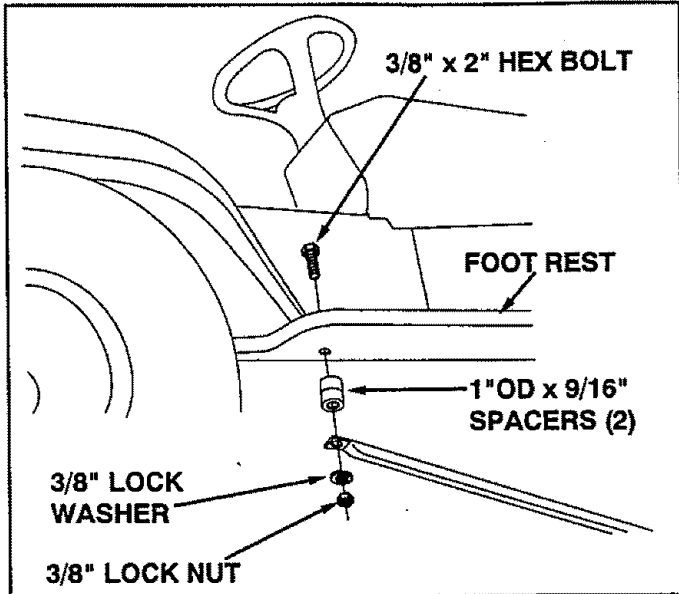
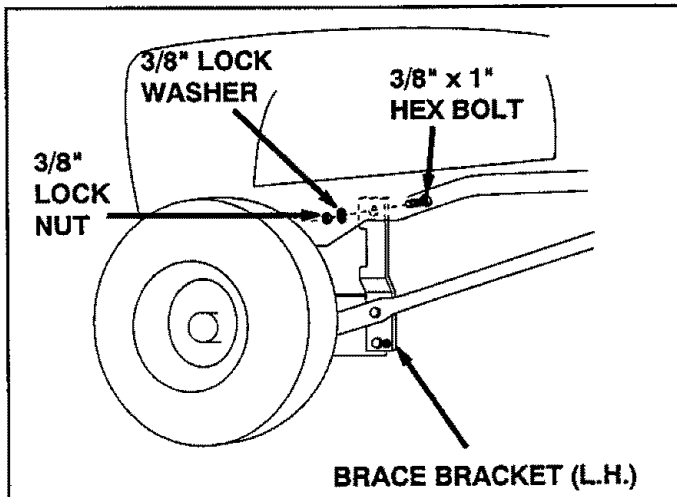

FIGURE 19
FIGURE 20
- Attach brace tube to tractor frame using a 3/8" x 2" hex bolt, two spacers, lock washer and lock nut. Use the hole located to the inside back of the foot rest. Hole is concealed by rubber padding. **Do not tighten at this time.** Repeat this step on opposite side. See figure 19.
- Remove the 7/16" x 1" bolt from the tractor frame located just after the foot rest and below the engine on each side panel, if there is one. The empty hole is shown in figure 20. Attach brace brackets (R.H. and L.H.) to the tractor frame using a 3/8" x 1" hex bolt, 3/8" lock washer and 3/8" lock nut on each side. See figure 20. **Tighten all loose nuts assembled in figure 19.**